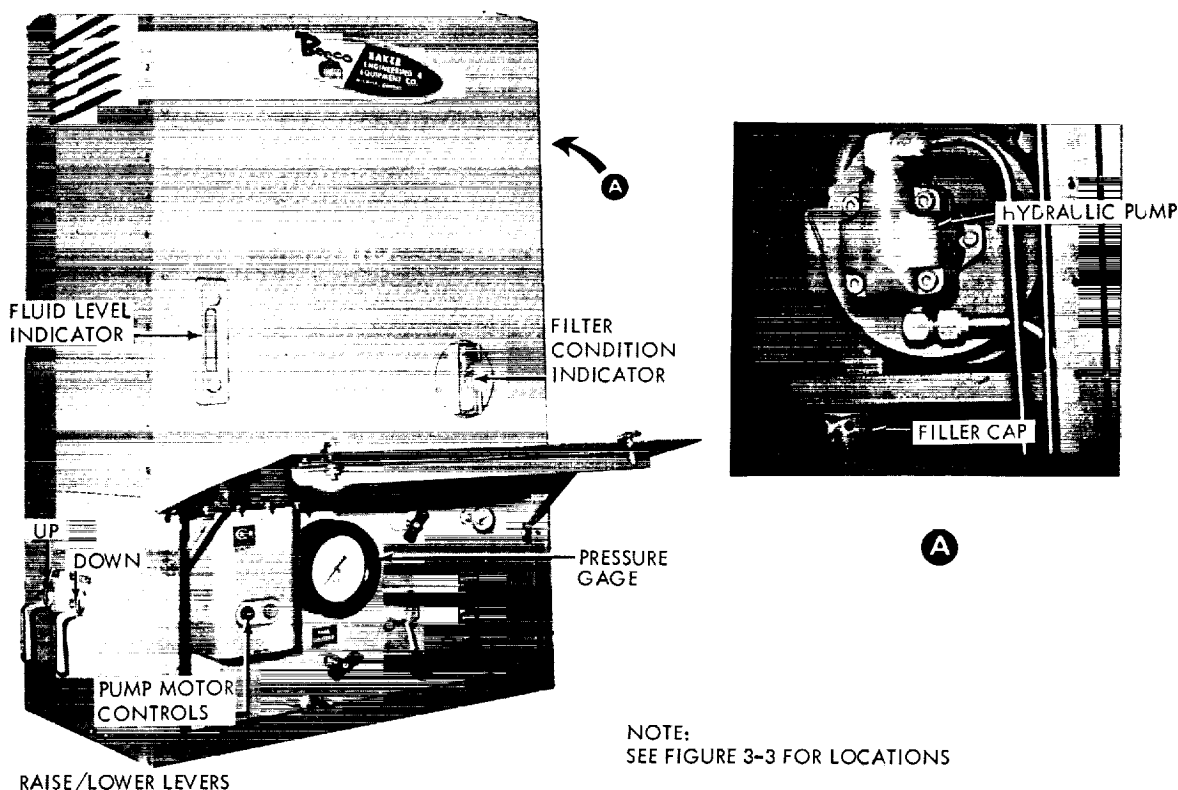

Figure 3-6. Hydraulic Control Package (Front Dolly)
- d. Check fluid level (thru sight glass, figure 3-6) of hydraulic reservoirs for the two front hydraulic packages and the single rear hydraulic package. Fluid should be at the indicated proper level when transporter is in the nominal height position.
If it is necessary to add fluid, remove side plate and reservoir filler cap per figure 3-6 detail A. Add hydraulic fluid, Sunvis 916 SW or equivalent, as required. Replace filler cap and side plate.
- s. On both consoles observe the ACKERMANN (A) - PARALLEL (P) lights on annunciator. If Ackermann light (A) is not ON, the parallel (P) light should be ON. This indicates that the steering system is not zeroed. NOT ZERO light should be ON and Ackermann to parallel switching cannot occur. Move the steering control lever in proper direction until steering angle meter reads zero. At this time, the parallel and NOT ZERO lights should go out and the Ackermann (A) light should come on.
- ab. Check the lowering and raising action of the transporter by operating levers on the Hydraulic Control packages per figure 3-6.